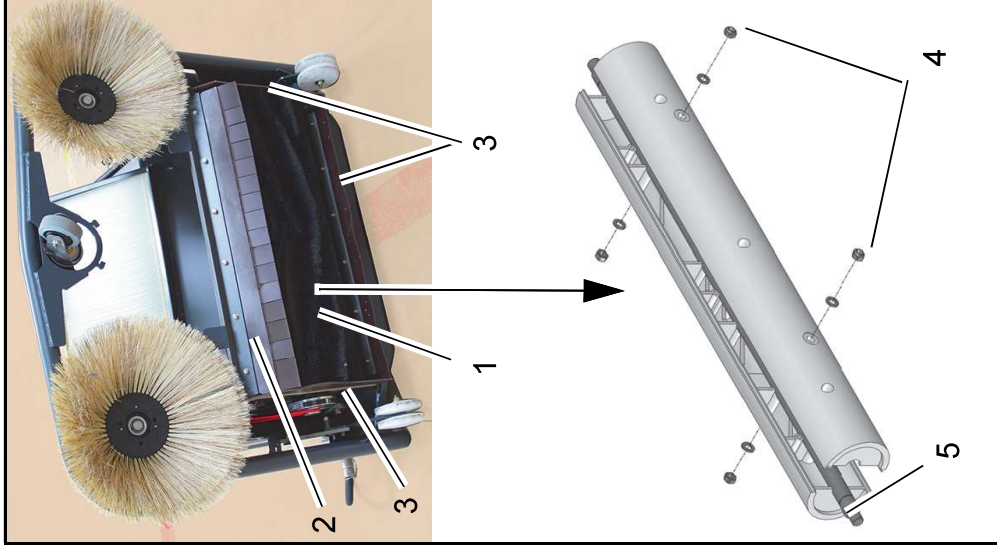

Fig. 8
Inspect the cylindrical brush (Fig. 8/1) for soiling daily.
5. Inspect the front apron (Fig. 8/2) and the sealing strips (Fig. 8/3) for soiling daily and clean if necessary.
4. Loosen the nuts and washers (Fig. 8/4) and remove the first half shell.
5. Manually rotate the cylindrical brush shaft (Fig. 8/5) 180° and remove the second half shell.
In the event of brush wear and after replacing the cylindrical brush, the sweeping level (Fig. 8/1) must be readjusted.